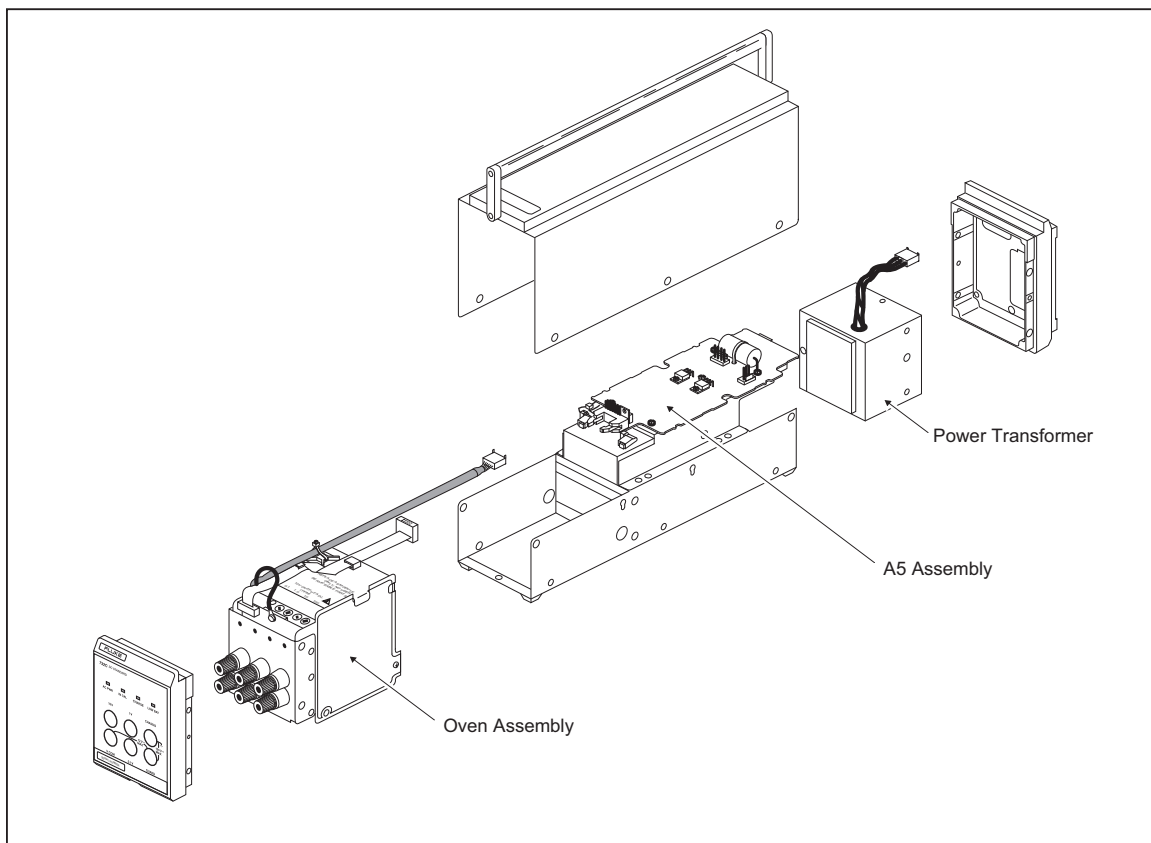

Figure 17. Accessing Internal Components
See Figure 17 and proceed as follows to remove the 732C cover and prepare to access internal components:
3. See Figure 17 and remove the three screws that fasten the front panel and oven to the chassis (one on each side and one on the bottom).